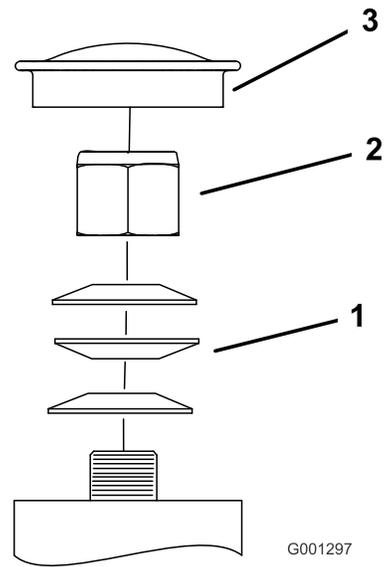

Figure 78
3. Remove the dust cap from caster and tighten the locknut (Figure 78).
4. Tighten the locknut until the spring washers are flat, and then back off a 1/4 turn to properly set the preload on the bearings (Figure 78).
Important: Make sure that the spring washers are installed correctly as shown in Figure 78.
5. Install the dust cap (Figure 78).